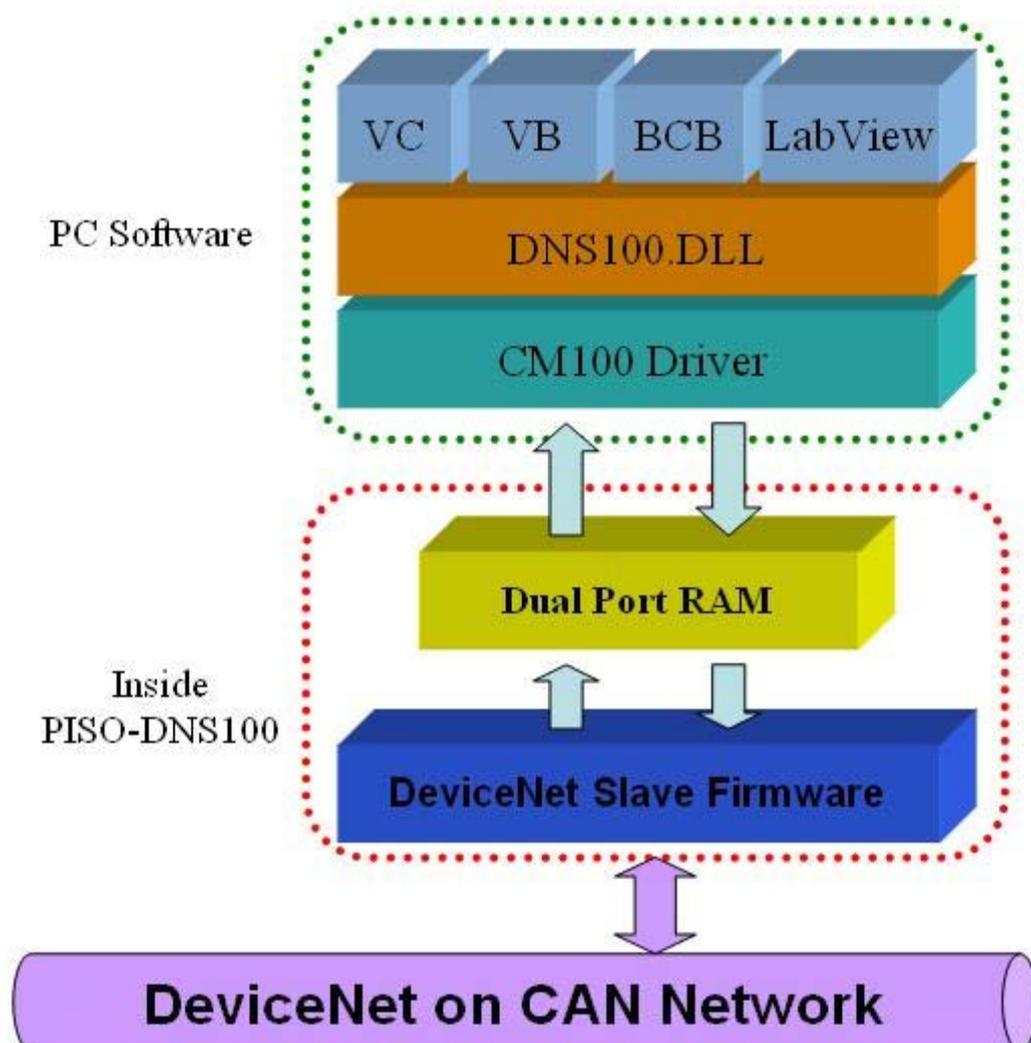

Figure 1.3.1 PISO-DNS100(U) illustration.
1.3 PISO-DNS100(U) Architecture
The PISO-DNS100(U) provides users to establish DeviceNet virtual slave station rapidly by Master/Slave connection model. The PISO-DNS100(U) is a high-performance DeviceNet multi-slave board with one CPU inside. This architecture of the PISO-DNS100(U) almost doesn't cost CPU resource and really increases the work efficiency on DeviceNet network. Applying the PISO-DNS100(U), users don't need to take care of the detail of the DeviceNet protocol. The inside firmware implements the DeviceNet protocol to help users to establish the connection with DeviceNet master devices easily. The illustration about the idea is shown as Figure 1.3.1.